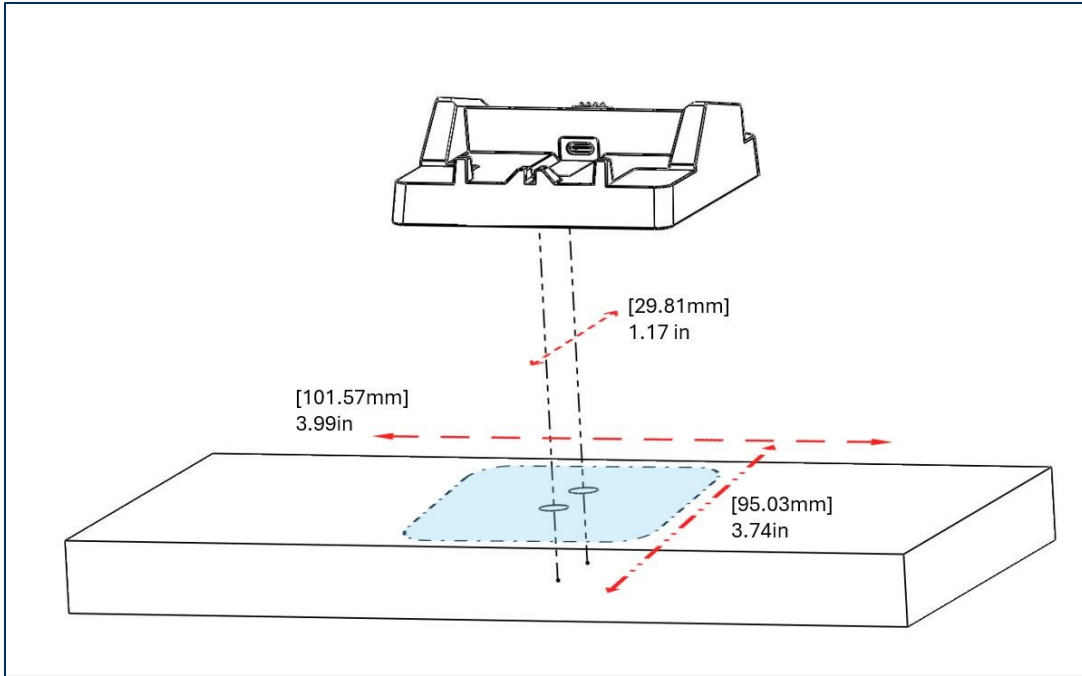

Figure 3-13 – Preparing a Flat Surface for Mounting the Charging Station
- a) Mark the location of the screw holes by placing the device over the area where it is to be installed (see **Figure 3-13**).